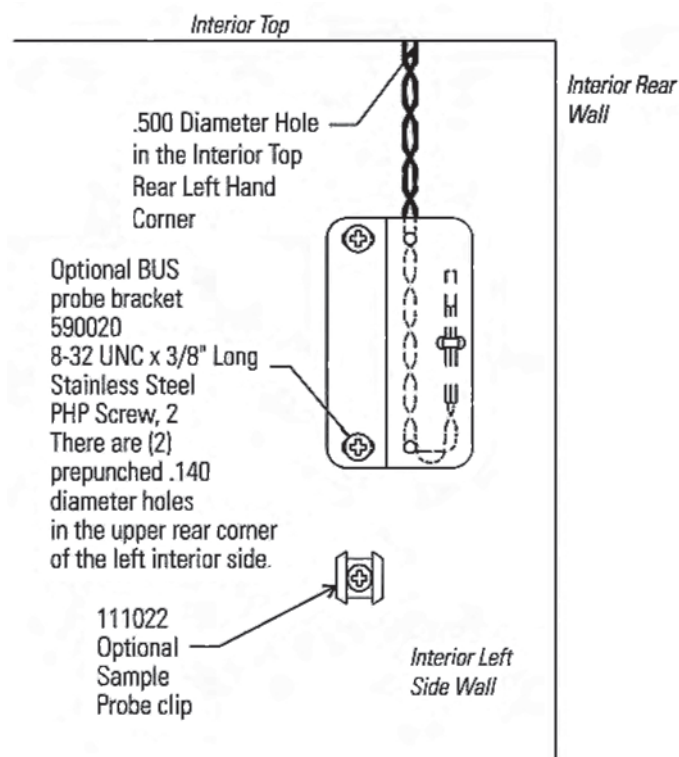

Figure 7-4. Probe Bracket
1. Locate the 0.500" pre-punched hole in the upper left back corner of the chamber ceiling. Remove the tie wrap securing the coiled probe/solenoid harness. Uncoil the probe lead and run the probe tip (approximately 12") down through 0.500" porthole (Figure 7-4).
3. Tap #8-32 the two pre-punched holes located on the interior left wall of the freezer. Mount the bracket. Figure 7-4 shows the Back-Up probe mounted on the interior left side wall of the freezer.